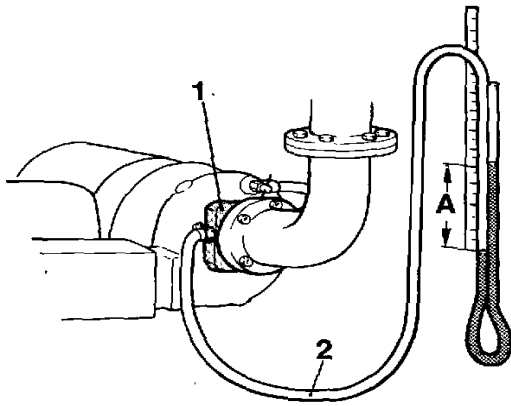

Fig. 208. Checking the exhaust counter-pressure
4. Connect a transparent plastic pipe to the measuring flange as shown in fig. 208 or, alternatively a low pressure manometer.